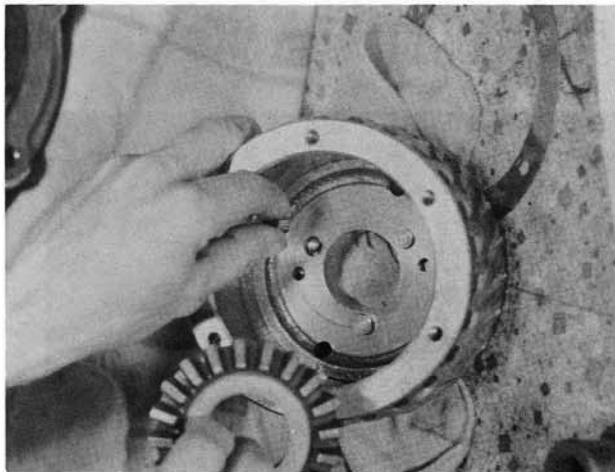

Figure 22
3. Now place three Dowell Pins (6714) in the pinholes in the Pinned Housing as shown in Figure 22.